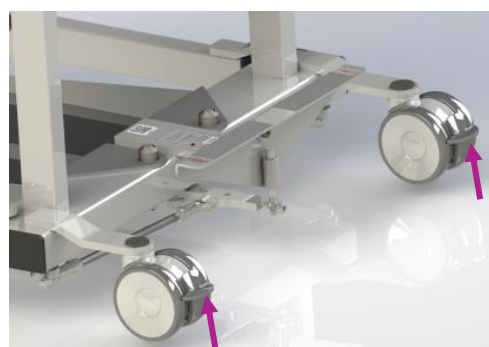

Figure 14
2. To deactivate the brakes, place your foot below the brake lever and lift the brake lever upwards. (Shown in Figure 14).